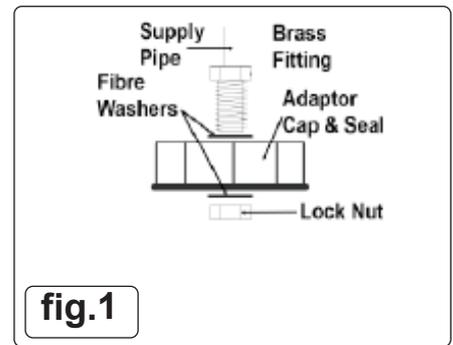

fig.1
- 4.1.2. Remove the reservoir cap from the vehicle's brake master cylinder, select and fit, see fig.1, the appropriate adaptor cap to the automatic brake bleeder and connect to the master cylinder.